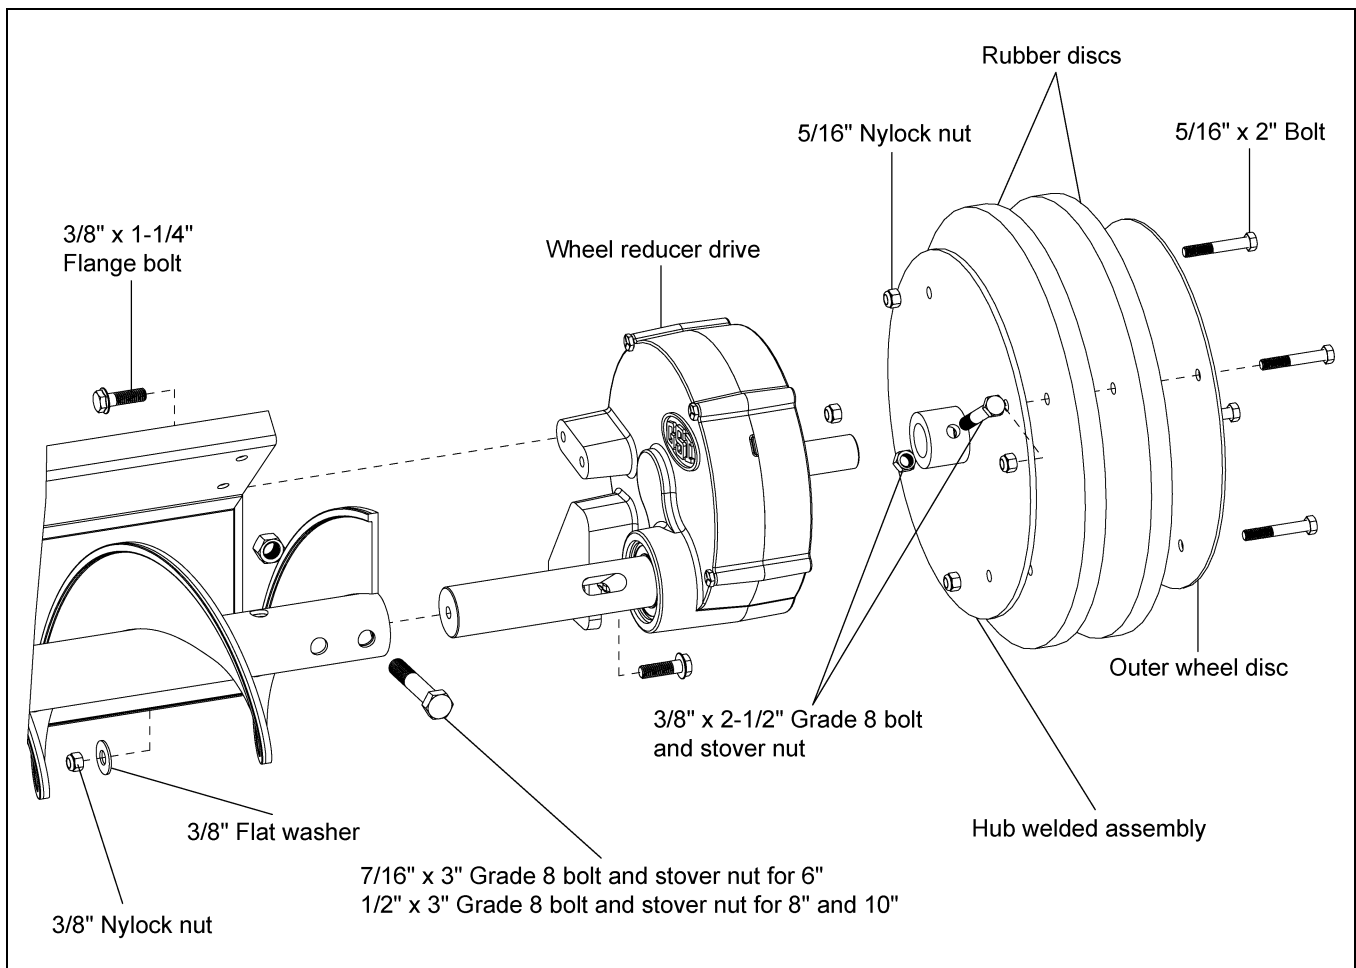

Figure 4AI
2. Mount the reducer to the back shield with two (2)  $3/8"$  x  $1-1/4"$  serrated flange bolts, one flat washer and nylock nut.
4. Attach the rubber discs and outer wheel disc to the wheel hub welded assembly with four (4)  $5/16"$  x 2" grade 2 bolts and nylock nuts. (See Figure 4AI.)